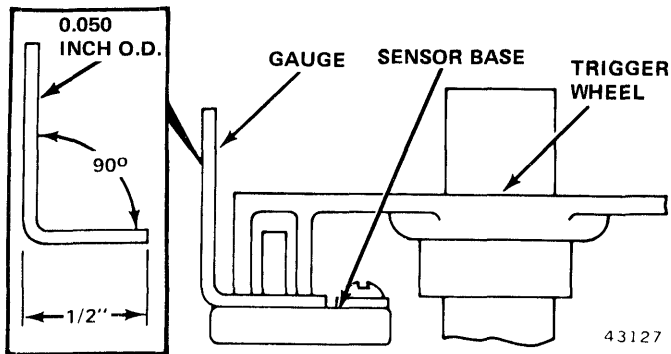

Fig. 3-59 Measuring Distance Between Trigger Wheel Teeth and Sensor Base
(11) Remove gauge and set trigger wheel in place on yoke. Visually check to make certain sensor core is positioned approximately in center of trigger wheel teeth and that trigger wheel teeth cannot touch sensor core.
(12) Support distributor shaft (not necessary if distributor is on engine) and press trigger wheel onto yoke. Use deep socket (13/16-inch) and small hammer to drive trigger wheel to installed position. Using 0.050-inch wire (contained in kit), bend wire gauge to dimension shown in figure 3-59. Use gauge to measure distance between trigger wheel teeth and sensor base (fig. 3-59). Install trigger wheel until it just touches gauge.